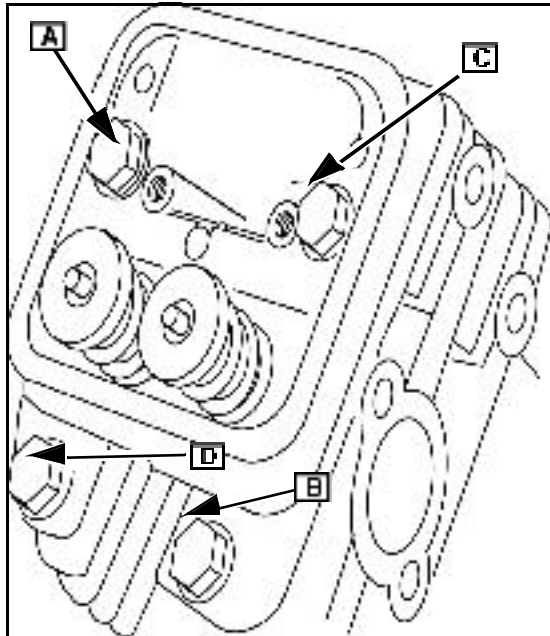

Fig. 7
1. Remove head bolts ([A, B, C & D] Fig.7) and cylinder head.
**NOTE:** Engines manufactured before 940501xx were equipped with sealing washers under cylinder head bolts (A) and (C] Fig. 7).